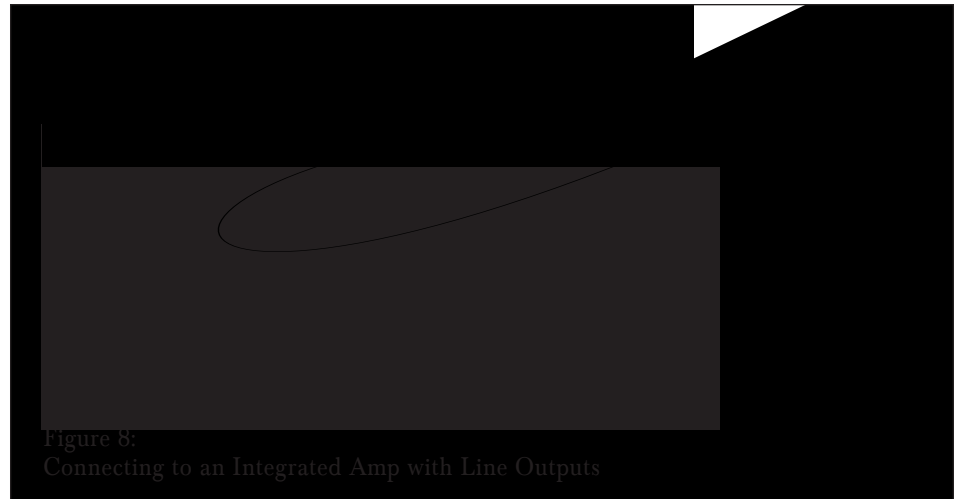

Figure 8:
**3. Integrated amplifier with left & right line-level outputs but no Main In or Amp In jacks (see Figure 8):**